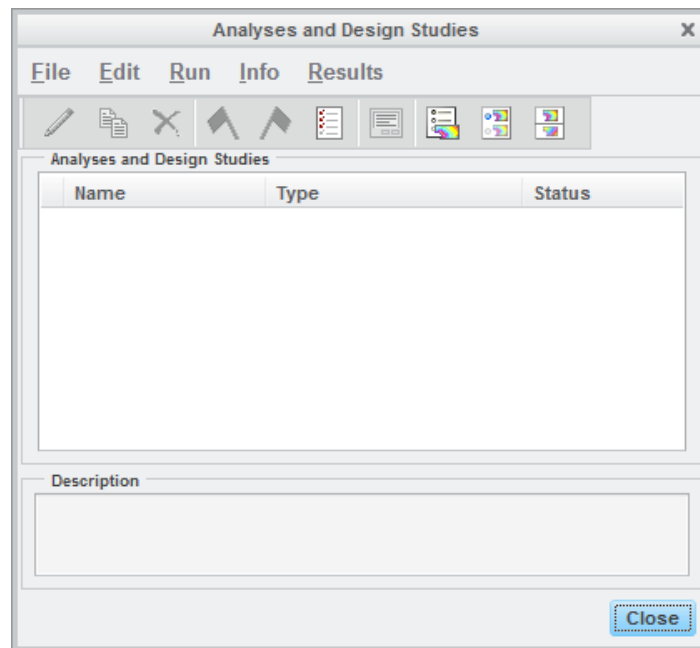

Figure 8 – Analysis and Design Studies Dialog
- Choose **Run > Analyses and Studies**  and the dialog in Figure 8 appears. From this dialog choose **File > New Static** and type the name **Bar**. Notice the method is Single-Pass Adaptive. This method is used for quick checks to ensure everything is defined correctly and to get rough results quickly. For more accurate results, you would change this to Multi-Pass Adaptive. Leave it as it is for now and **OK**. Choose the icon  to run this analysis choosing **Yes** for error detection. The Diagnostics dialog for the analysis named bar appears. After a few seconds (longer on a slower machine!) the report should state Run Completed. You can also press  to watch the report of the analysis as it runs. Close the Report dialog, Diagnostics dialog and the Analyses dialog.